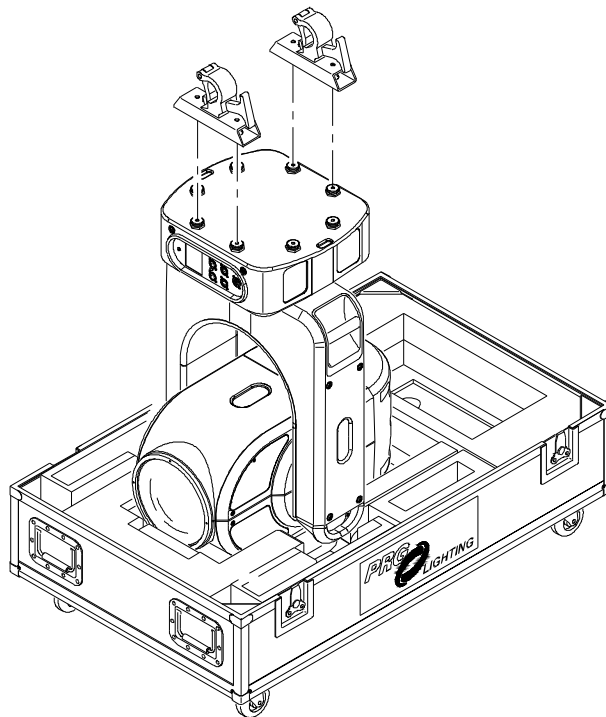

Figure 2-6: Attaching Hanging Brackets
- Step 1. Orient Hanging Brackets as shown in **Figure 2-6**.
**CAUTION:** Hanging Brackets must be installed in the orientation shown in **Figure 2-6** so that the interface panel (display) will face downward.